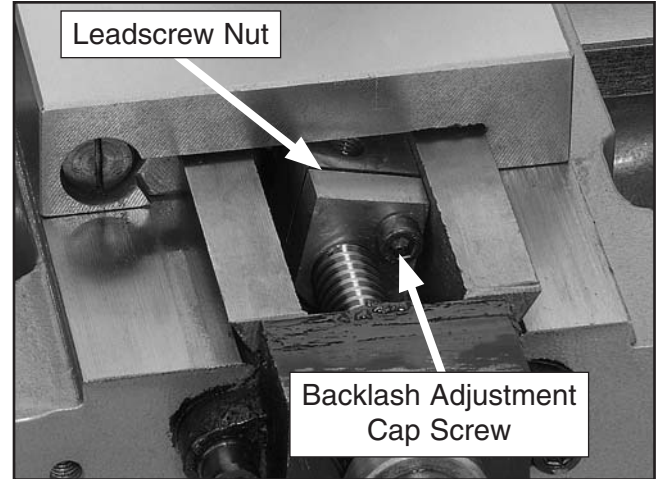

Figure 83. Leadscrew nut.
3. Rotate the cross slide handle to feed the leadscrew nut out from under the cross slide as shown in **Figure 83**.
4. Tighten the backlash adjustment cap screw shown in **Figure 83** in small increments.